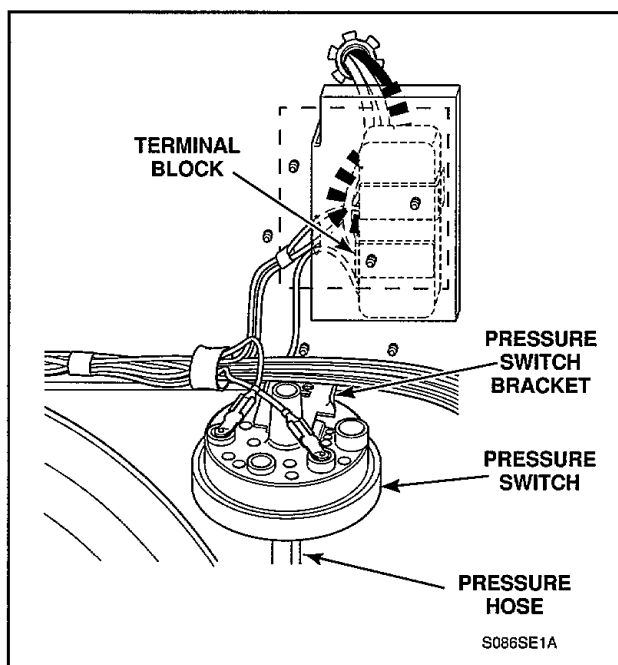

Figure 28
17. TERMINAL BLOCK (Refer to Figure 28)
- Disconnect pressure hose from pressure switch, Figure 28.
- Remove screw holding pressure switch and bracket to rear cross channel, Figure 28.